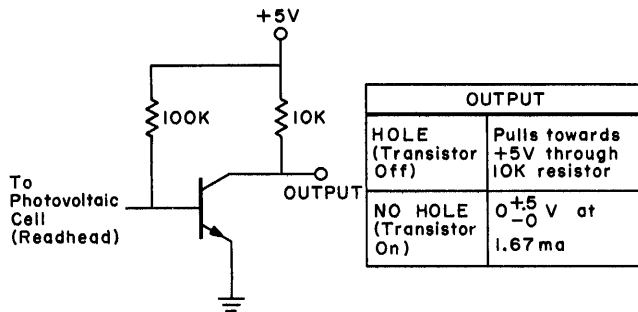

Figure 1-4. Typical Preamplifier Circuit, Simplified Schematic
1.4.2.3 Readhead. The built-in preamplifier circuits in the readhead require an operating voltage of $+5 \pm 0.5$ volts at 60 milliamperes (total), with a maximum ripple of 0.1 volt. This voltage should be regulated to 0.1 volt (or 2%). The readhead outputs are at +5 volts (open circuit) for a hole condition, and between 0 and +0.5 volts at 1.67 milliamperes maximum for a no-hole condition. During a hole condition, the readhead amplifiers pull to +5 volts through a 10,000-ohm resistor (Figure 1-4).